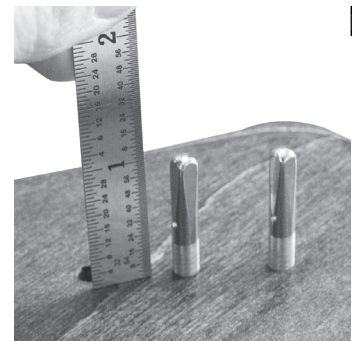

FIG. 4
- ___11. When the finish is dry, locate your bag of 15 tuning pins. Use a hammer to pound in the pins until they are well seated, standing about 1 inch above the wood. Use the tuning key to turn them clockwise to go deeper, or counter-clockwise to raise them up to an even height. (fig. 4)